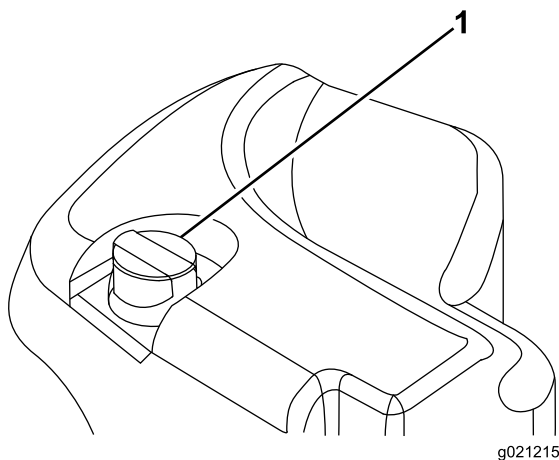

Figure 31
2. Clean the area around the filler neck and cap of the hydraulic tank (Figure 31).